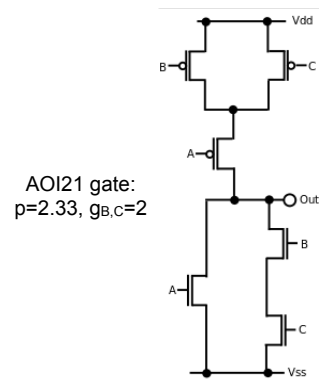

Figure 7: The and-or-invert 2-1 gate.
- The AOI21 gate is shown in Figure 7. But you also need the OAI21 gate in your tree. Draw the circuit diagram for that gate and calculate its logical effort for the input that is the critical one in the Sklansky tree and its parasitic delay. (2 p)